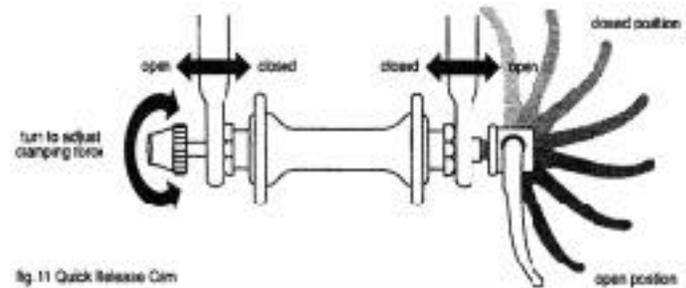

Fig 11 Quick Release Cam
While it looks like a long bolt with a lever on one end and a nut on the other, the wheel quick release uses a cam action to clamp the E-Bike®'s wheel in place (see Fig. 11).
(2) Rotate the wheel's quick-release lever from the locked or CLOSED position to the OPEN position (Fig.11,12&13).
(3) If your front fork does not have a secondary retention device go to step 5.
(4) If your front fork has a clip-on type secondary retention device, disengage it and go to
(1) Rotate the quick-release lever so that it curves away from the wheel (Fig. 11 & 13). This is the OPEN position.
(2) With the steering fork facing forward, insert the wheel between the fork blades so that the axle seats
(3) Holding the quick-release lever in the OPEN position with your right hand, tighten the tension adjusting nut with your left hand until it is finger tight against the fork dropout (Fig. 11).
(4) While pushing the wheel firmly to the top of the slots in the fork dropouts, and at the same time centering the wheel rim in the fork, rotate the quick-release lever upwards and push it into the CLOSED position (Fig. 11 & 12). The lever should be parallel to the fork blade and curved toward the wheel.
(5) If the lever cannot be pushed all the way to a